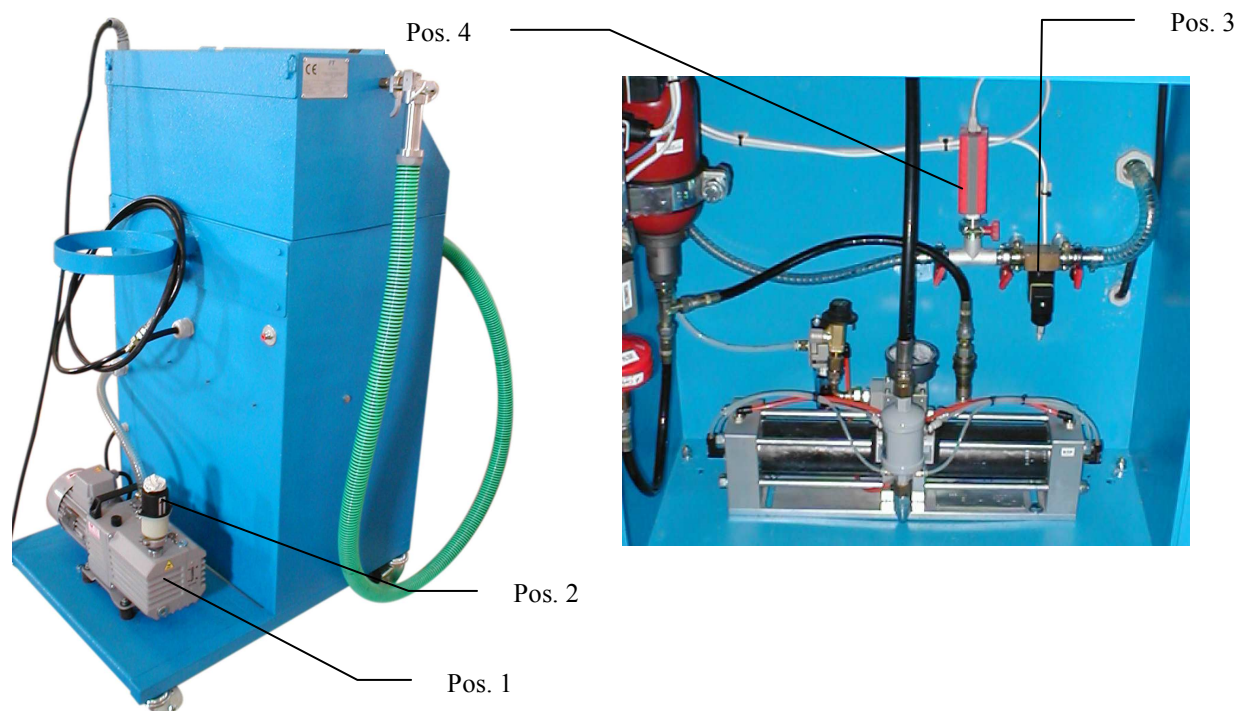

Figure 2.12 Vacuum system.
- **Vacuum pump** (pos. 1 fig. 2.12). It is a two-stage, direct drive, vane rotary pump. The pump is oil sealed and designed for reliable, long term operation in industrial environments (see the rotary vacuum pumps instruction manual). The pump is installed on the base of the structure through antivibration supports and it is connected, through a vacuum coupling, to the cut-off valve of the vacuum pump.
- **Outlet mist filter** (pos. 2 fig 2.12). The outlet mist filter (optional) separates and traps oil droplets at the pump outlet to prevent oil mist discharge. The filter is connected to the pump outlet through a standard Pneurop NW16 coupling. The discharge pipe has to reach the outside of the building.
- **Vacuum valve** (pos. 3 fig. 2.12). It is installed at the pump inlet and it closes the vacuum line during the static leak test (pressure rise test). It is connected to the vacuum line.
- **Pressure sensor** (pos. 4 fig. 2.12). It is connected on the vacuum circuit through a standard Pneurop NW16 coupling. It is a vacuum sensor and it allows a sufficiently accurate measure in the pressure range from 1 to 1,000 Pa. Through a standard RJ45 connector it is connected, through an electrical cable, to the electronic control unit.